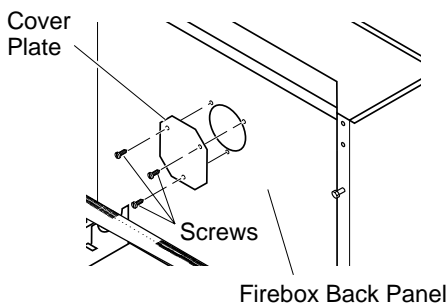

Figure 18 - Removing Cover Plate
11. Remove three screws and cover plate from center of firebox back panel. Keep screws but discard cover plate (see Figure 18).